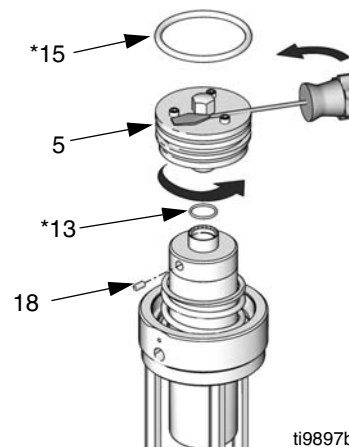

FIG. 11: Series A Air Valve
2. *Series A air motors only:* Loosen set screw (18) and unscrew air valve (5). If necessary to assist turning, wedge a screwdriver blade between the screw heads and the hex cap of air valve (5). Discard items 5, 13, 15, and 18. See FIG. 11.